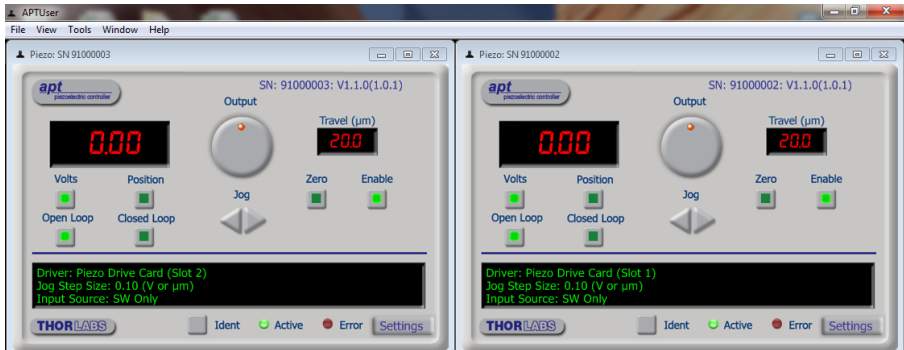

Fig. 4.1 Typical APT User Screen
- 1) Run the APT User program - Start/All Programs/Thorlabs/APT User/APT User. The APT server registers automatically the units connected on the USB bus and displays the associated GUI panels as shown in Fig. 4.1.